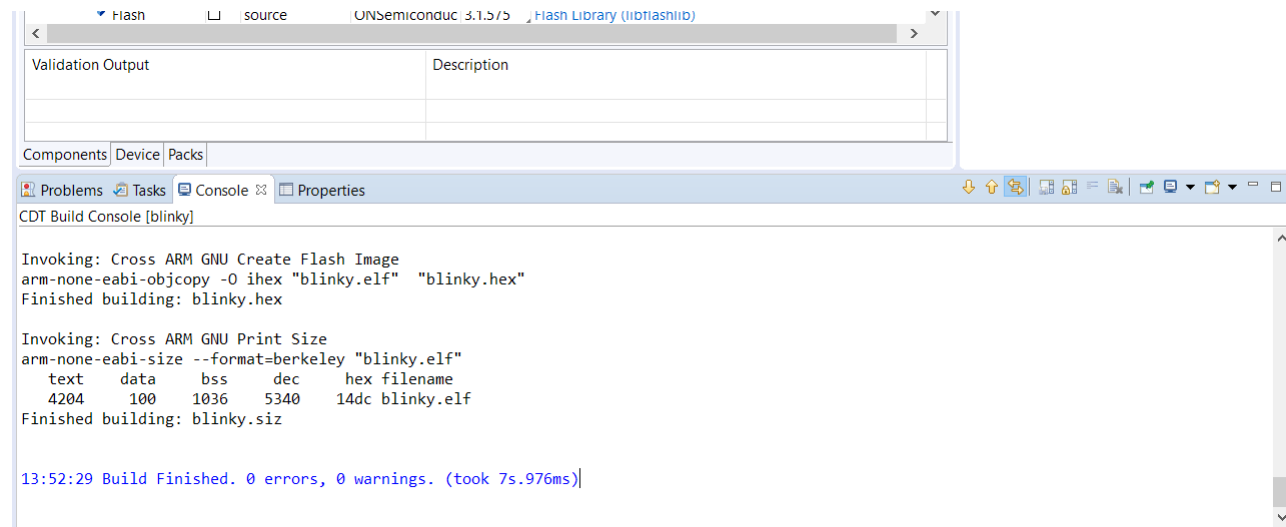

Figure 8. Example of Build Output
- When the build is running, the output of the build is shown in the onsemi IDE C/C++ Development Tooling (CDT) Build Console, as illustrated in the figure "Example of Build Output" (Figure 8).